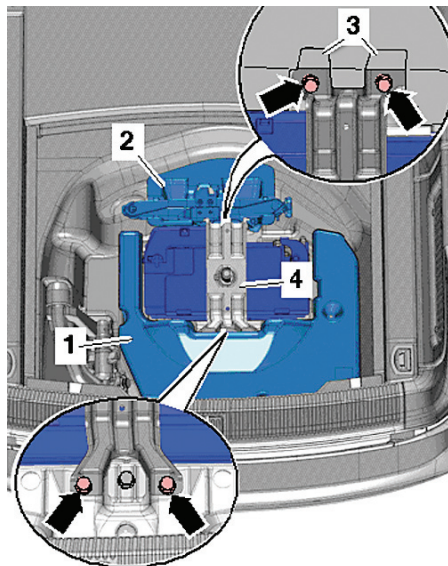

Fig. 3 Ground terminal cover removal. Version II
- a. Remove subwoofer (1) if equipped, **Fig. 3**.
- b. Remove tool kit mount (2), **Fig. 3**.
- c. Remove bolts (arrows), **Fig. 3**.
- d. Remove spare tire bracket (4), **Fig. 3**.
- a. Install spare tire bracket (4), **Fig. 3**.
- b. Install bolts (arrows), **Fig. 3**.
- c. Install tool kit mount (2), **Fig. 3**.
- d. Install subwoofer (1) if equipped, **Fig. 3**.